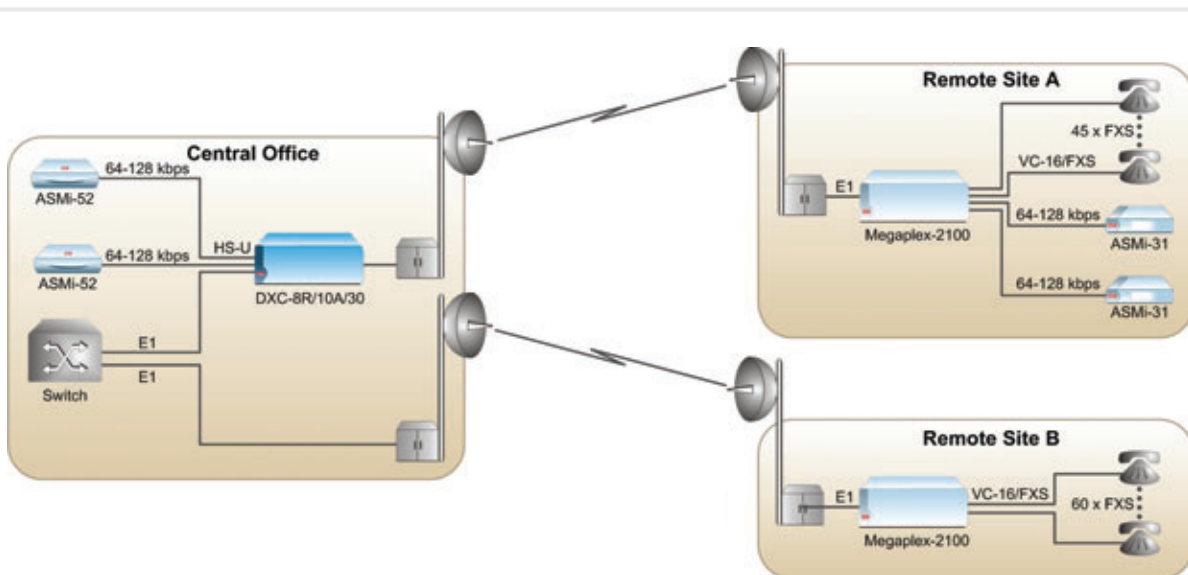

Figure 2. Voice and Data Extension
- Voice and data transmission over PDH wireless devices (see *Figure 2*)